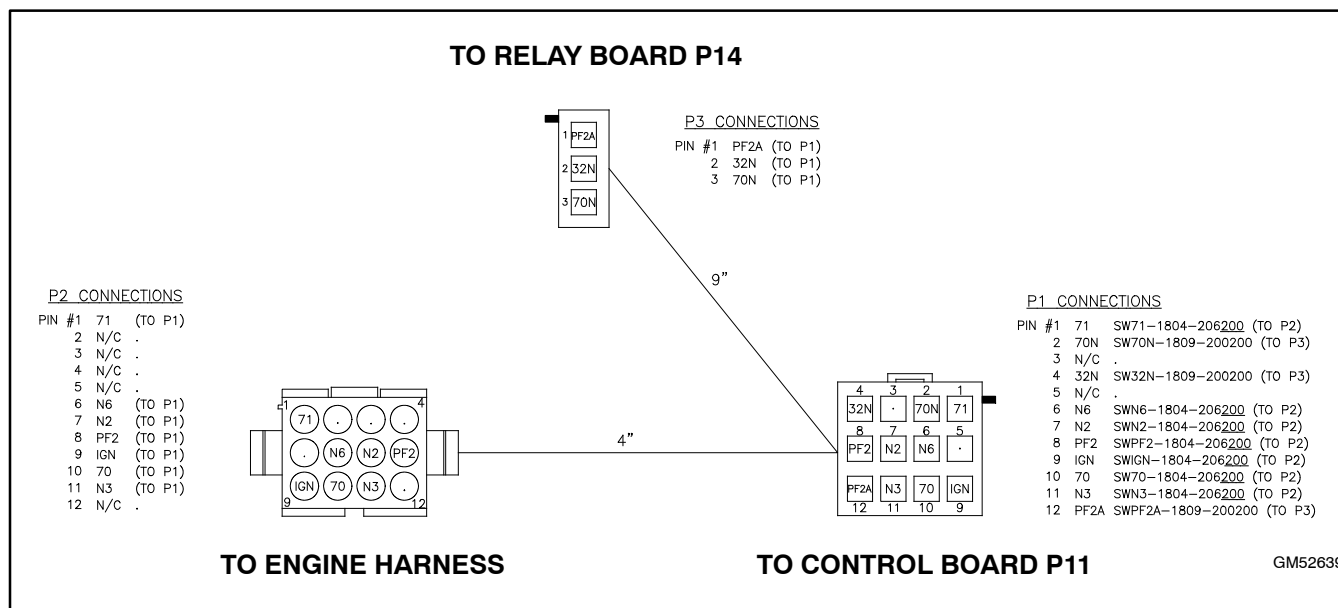

Figure 5-20 Relay Board Connection Harness GM52639
First check for loose connections. Check the relay board harness connections to the relay board, control board, and engine harness. See Figure 5-18, Figure 5-19, and Figure 5-20.
5. Connect three-pin connector of the relay board harness GM52639 to P14 on relay board GM51403. See Figure 5-18 and Figure 5-20.
6. Verify that the relay board harness is securely connected to P11 on the control board. See Figure 5-19 and Figure 5-20.
7. Verify that the relay board harness is securely connected to the engine harness. See Figure 5-20.